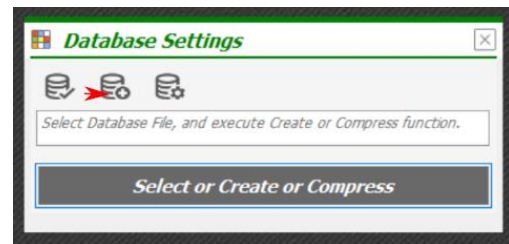

Fig. 5
4. The first time the application launches, a database has not yet been assigned. Select **OK** in the **Database Not Found** dialog box. The **Database Settings** dialog box will appear. See Figure 5. Select the **(+) disk stack icon**; the **Save to File** dialog box will appear. NxESL will assign a numeric file name for the demo. Select **Save** to continue. Select **Create, OK** and finally **Select** as the buttons become available to finish creating the demo database file.